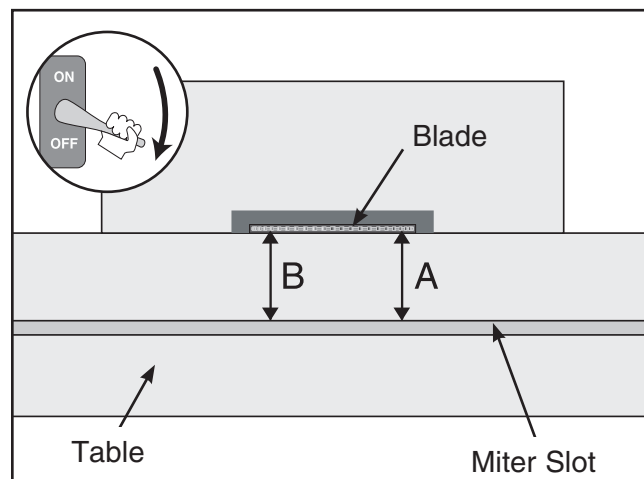

Figure 85. Measuring gap between the table and the blade.
4. Using an adjustable square or a dial indicator, measure the distance (A) between the miter slot and the front of the blade as shown in **Figure 85**.
5. Rotate the blade 180° and slide the table with the measuring device to position (B) in **Figure 85**.